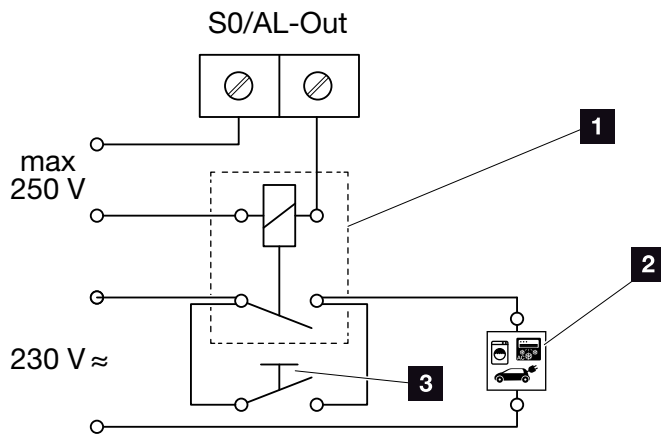

Fig. 60: Electrical connection for self-consumption
1. Properly connect the external load relay to the S0/AL-Out terminal  **Fig. 60**